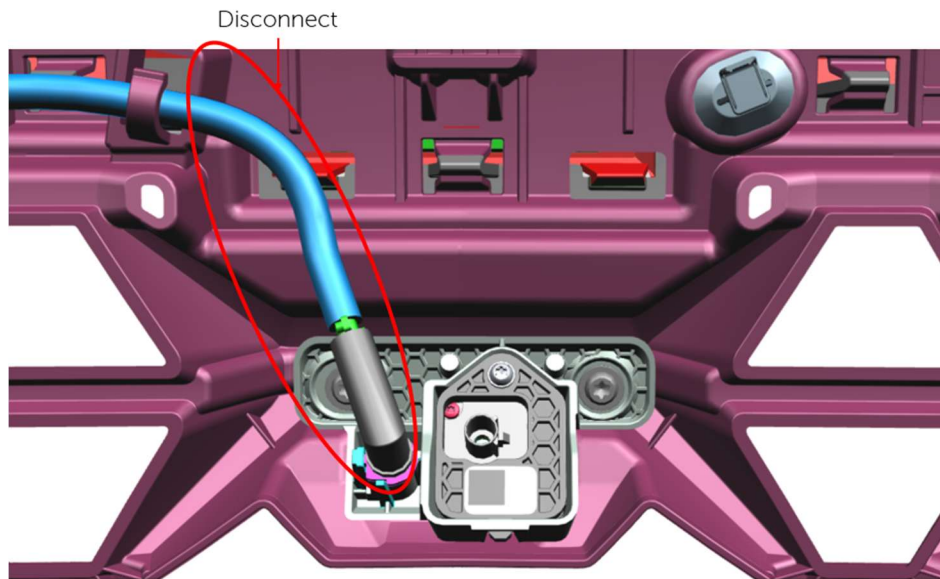

Figure 13
- A. Fully disconnect wiper fluid harness from grille fascia retention – this will re-route through AEV lower weldment. – Fig. 13